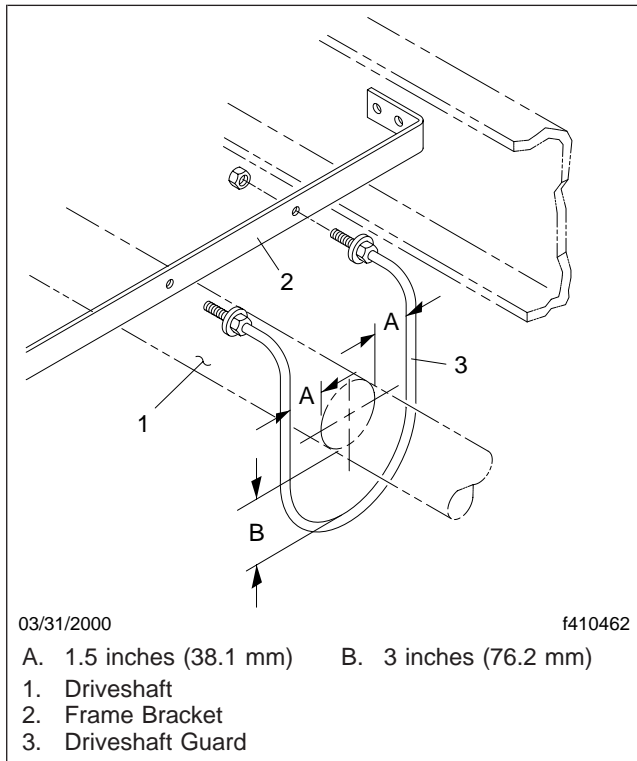

Fig. 4, Driveshaft-to-Driveline Guard Clearance
8. Check the side and bottom clearance between the driveshaft and the 3 driveline guards. See **Fig. 4**. There should be 1-1/2 inches of clearance on each side and 3 inches of clearance between the driveshaft and the bottom of the guard.